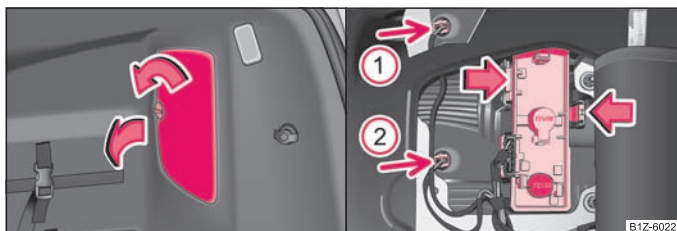

Fig. 152 Luggage compartment: Cover for the lamp holder / removing lamp holders
- Unlock the locking button and open the cover of the lamp holder ⇒ fig. 152 - left.
- Press the catches in the direction of arrow and take out the lamp holder ⇒ fig. 152 - right.
- Take the defective light bulb (arrow ① or ②) out of the light housing and replace it with a new one of the same type.